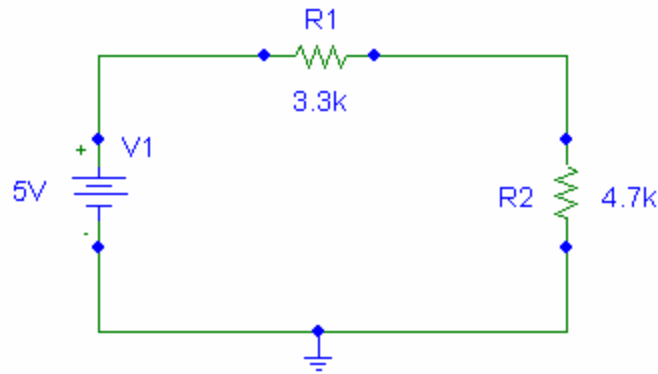

Figure 3.
1. Set up the circuit in Figure 3. Do not forget to ground your circuit.
2. Measure the voltage across all the branches, including V_1 , in Figure 3 using the procedure described in step II.
3. Measure all branch currents in Figure 3 using the procedure described in step III.